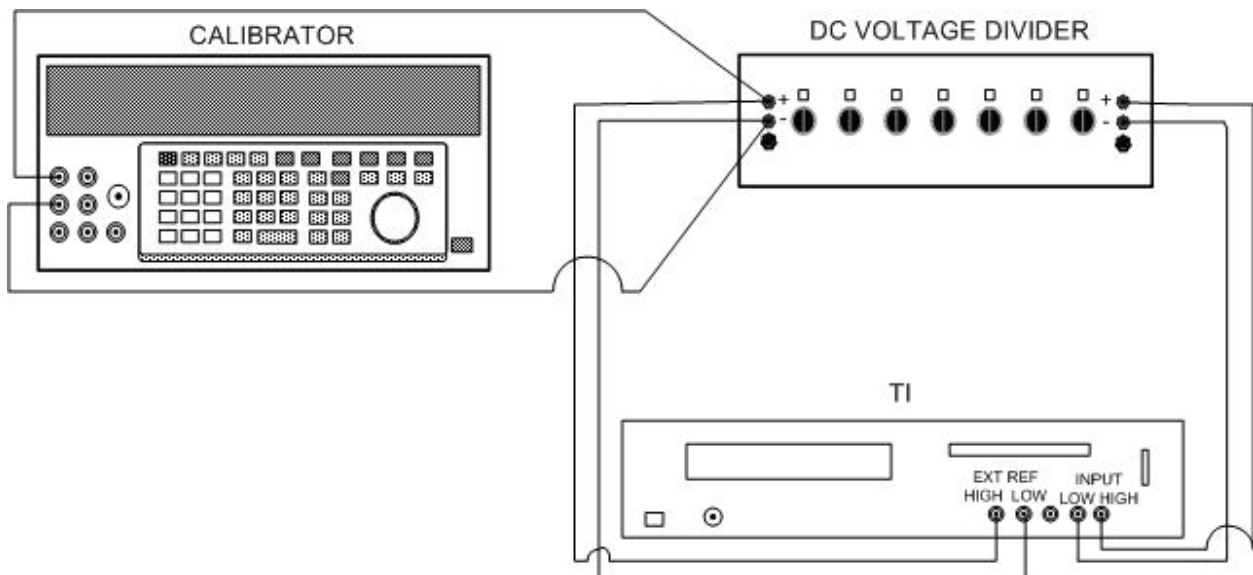

Figure 2. Dc/dc ratio - equipment setup.
- (4) Reverse polarity of calibrator output. TI will indicate  $0 \pm 0.0001$  V.
- (5) If (3) and (4) above are not within specified limits, perform **b** (1) below.
- (6) Set **RATIO** switch to **EXT REF 1V** and repeat (3) and (4) above. If TI does not indicate within specified limits, perform **b** (2) below, as necessary.
- (7) Remove short from TI **EXT REF** terminals and connect calibrator to **EXT REF** terminals.
- (8) Set calibrator to 1 M $\Omega$ .
- (9) Connect calibrator to TI **INPUT** terminals, and adjust output for a positive and then negative 10 V to TI. If TI does not indicate  $0 \pm 0.0005$  V, perform **b** (4) below.
- (10) Remove calibrator from TI and position controls as listed in (a) through (c) below:
- (11) Connect equipment as shown in figure 2.